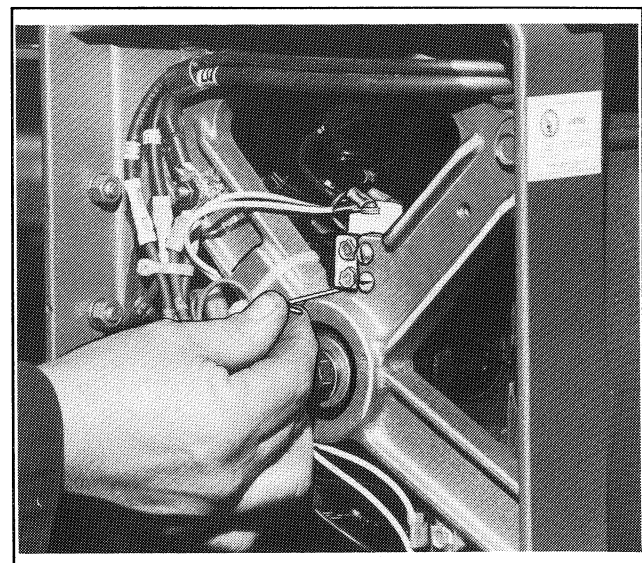

Figure 8-6. Inserting Retainer Wire
12. Raise brushes in holder by grasping leads. Lock brushes in position by inserting a retainer wire, as shown in Figure 8-6.